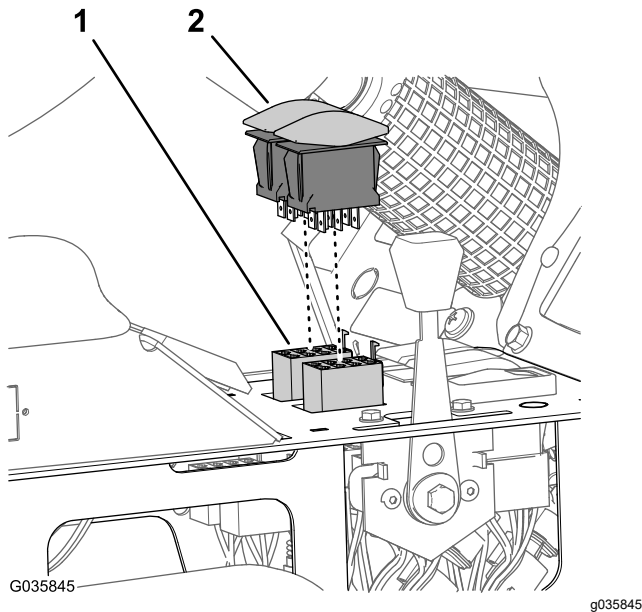

Figure 27
2. Remove the rocker switches for the left and right boom-lift controls from the center-console panel (Figure 27).
3. Disconnect the 8-socket connectors of the wiring harness for the machine from the boom-lift switches for the left and right boom-lift control circuits (Figure 27).
4. Connect the rocker switches into the 8-socket connectors of the wiring harness for the ultra sonic boom finishing kit (Figure 27).
5. Insert the boom-lift switches in the openings in the center-console panel until the switches snap securely (Figure 27).